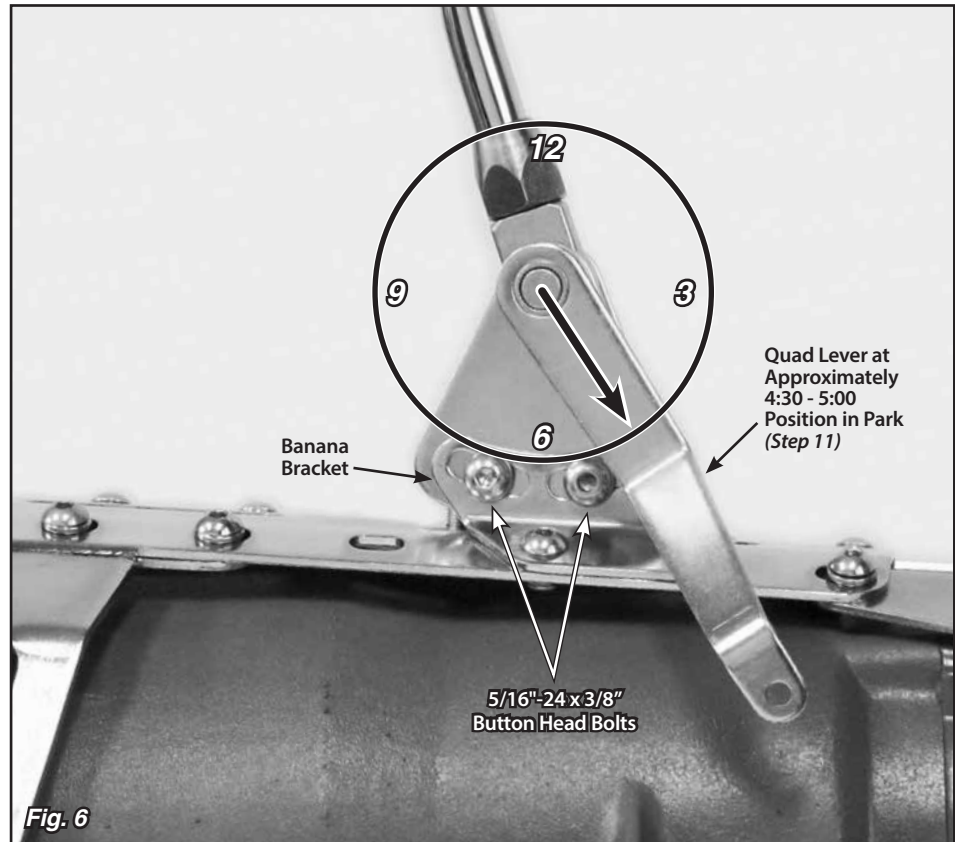

Fig. 6
Step 10: Make sure the two 5/16"-24 x 3/8" button head bolts that attach the left side banana bracket to the shifter assembly (in the curved, slotted holes) are tight. Before tightening the shifter assembly down to the main plate, move the shifter lever through all the gear positions. Make sure that the shifter lever and knob will not come in contact with the dash or the seat. The shifter assembly can be tilted forward or backward if needed by loosening the 5/16"-24 x 3/8" button head bolts in the curved, slotted holes in the left side banana bracket. **Fig. 6**
Step 11: Put the shifter lever into the Park position and check the position of the quad lever. It will need to be pointing to about the 4:30 - 5:00 position. If it is not, loosen the set screw in the top of the quad lever with a 1/8" Allen wrench and slide the quad lever off of the shaft. Reposition it on the shaft at approximately the 4:30 - 5:00 position, and retighten the set screw. **Fig. 6**
Double check to make sure that the bolts connecting the **left** side banana bracket to the shifter assembly are tight. **Fig. 6**